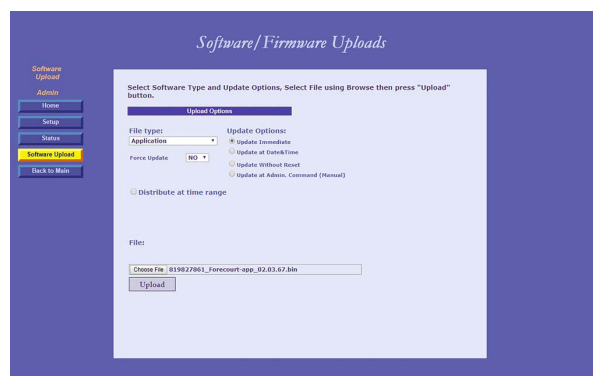

Figure 5-16 - File Chosen
3. Select the file and click **Open** (see Figure 5-16)